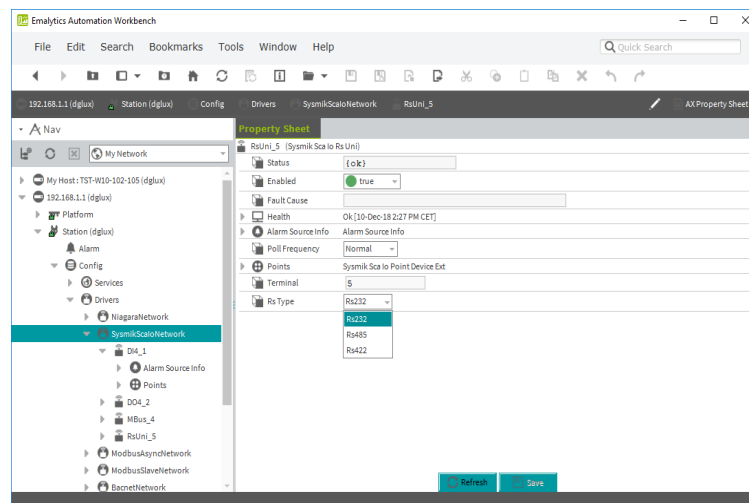

Figure 3-16 IB IL RS UNI-PAC interface parameterization
- COM4: the IB IL RS UNI-PAC Inline terminal in terminal position 4 serves as an interface for the ModbusAsyncNetwork; to this end, interface standard RS-485 is selected in the terminal component's Property Sheet, in the SysmikScaIoNetwork, under property Rs Type (see Figure 3-16).